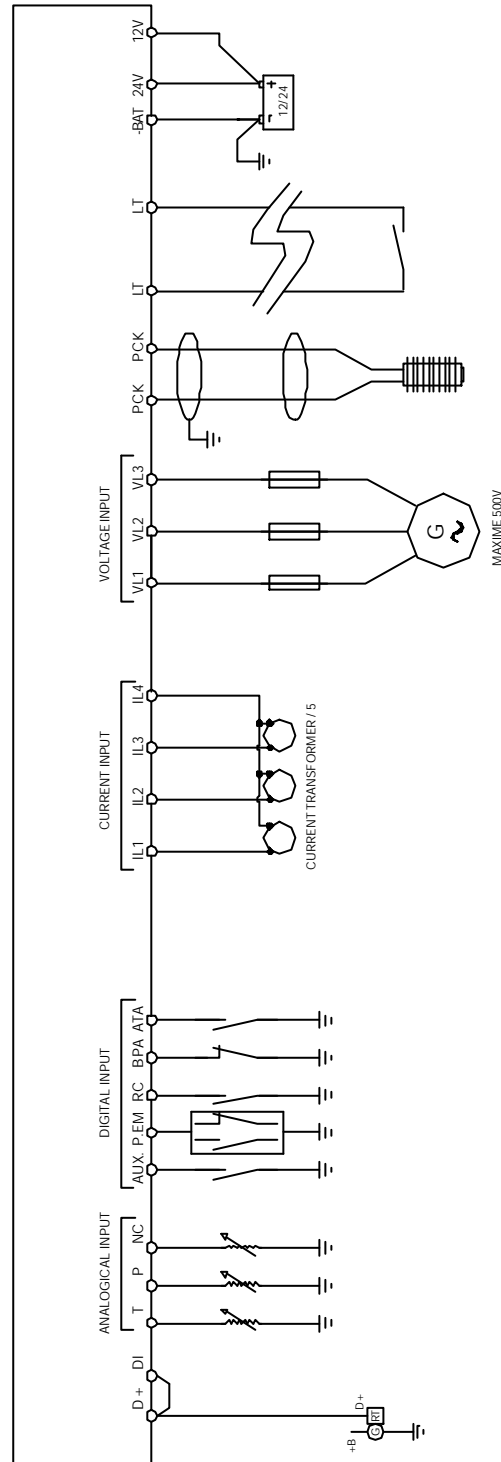

Figure 1a.
The connection terminals are placed on the back panel of the switchboard (first see figures 1a and 1b below).
**IL1, IL2, IL3 and N terminals: current input /5.** The secondaries of the current transformers ( /5A) must be connected to the current inputs IL1, IL2, IL3, the common conductor of the secondaries of the current transformers must be connected to terminal N, as indicated in figure 1a. These transformers will have a power superior to 1.5 VA. The transformation ratio is indicated by parameter P05.